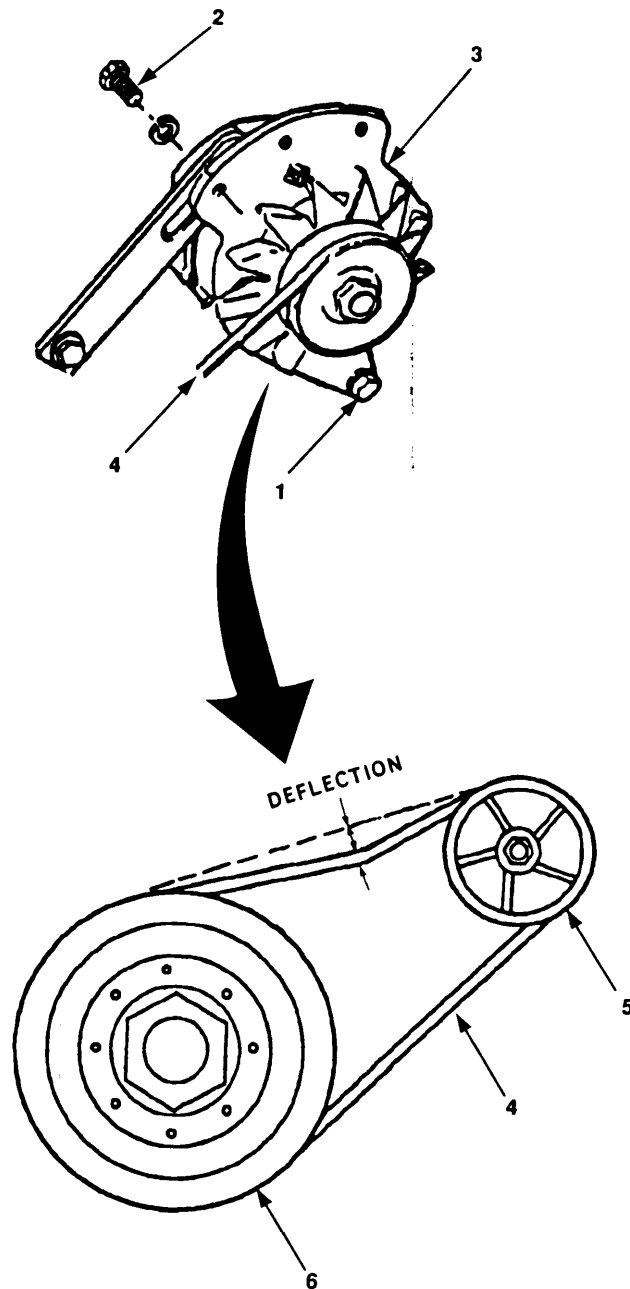

Figure 4-11. Alternator Belt Maintenance.
- a. Measure belt deflection as shown in figure 4-11. Deflection should be 1/4 inch.
- b. Push alternator (3) towards engine and remove V-belt (4).
- a. Position alternator V-belt (4) on alternator pulley (5) and crankshaft pulley (6).
- b. Move alternator (3) away from engine to tighten V-belt for 1/4 inch (6mm) deflection.
- c. Hold alternator (3) in place and ensure belt deflection is maintained. Tighten bolts (1 and 2).
- d. Measure belt deflection as shown in figure 4-11. Repeat steps b and c until proper deflection is obtained.